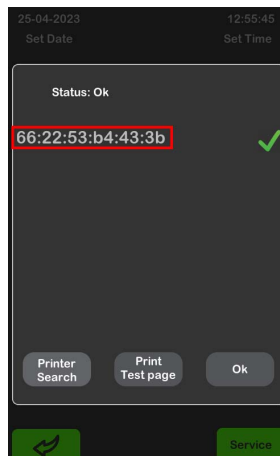

Figure 28. Bluetooth printer connection menu
2. Go to the **"SETTINGS"** menu, then press the **"Printer Setting"** button. In the opened window (see Fig. 28), press the **"Printer search"** button.